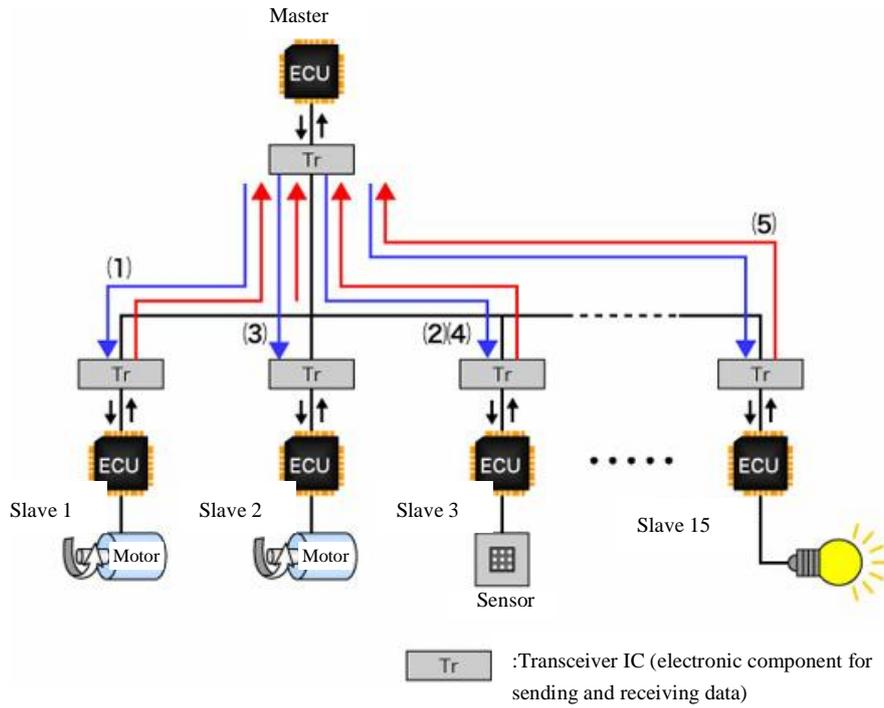
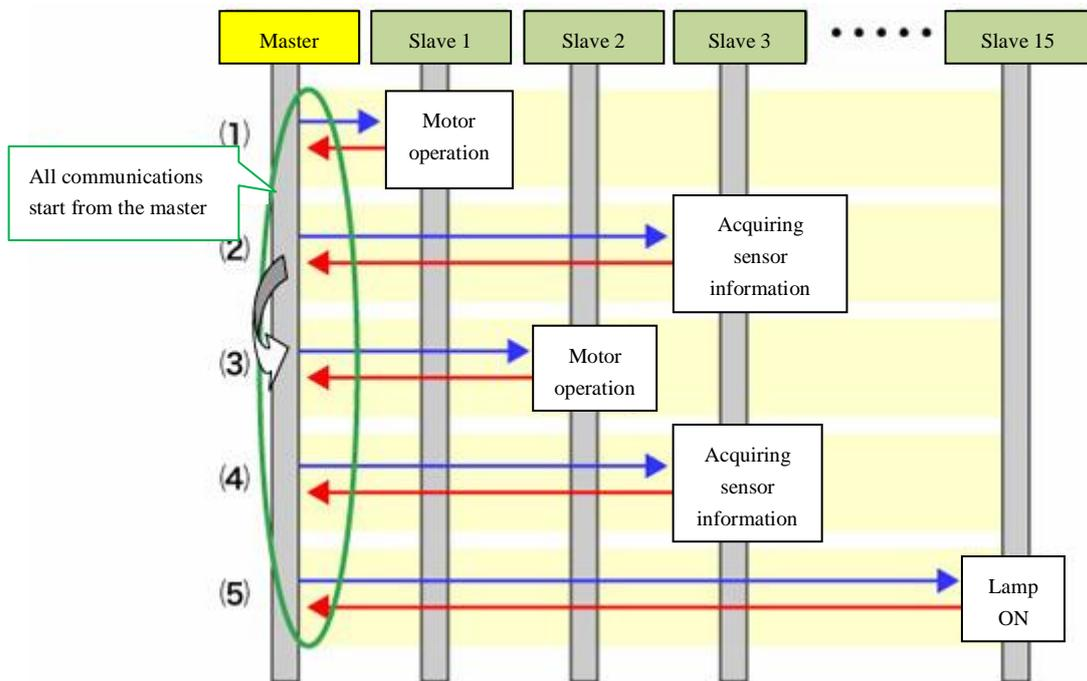

Figure 5-5 Main LIN network configuration
Figure 5-6 Example of communication sequence between the master and slaves during normal communication
This section explains the actual trading of communications. Currently, functions are allocated to each of the slaves from 1 to 15. The master first communicates with slave 1 and turns the motor ((1) in Figure 5-5 Main LIN network configuration and Figure 5-6 Example of communication sequence between the master and slaves during normal communication), and next acquires sensor information by communicating with slave 3. ((2) in “Figure 5-5 Main LIN network configuration” and Figure 5-6 Example of communication sequence between the master and slaves during normal communication.) Thereafter, the motor is turned by communications with slave 2 ((3) in Figure 5-5 Main LIN network configuration and Figure 5 6 Communications sequence between master and slave during normal communications). The master acquires sensor information from slave 3 again ((4) in Figure 5-5 Main LIN network configuration and Figure 5 6 Communications sequence between master and slave during normal communications), and finally turns ON the lamp by communicating with slave 15 ((5) in Figure 5-5 Main LIN network configuration and Figure 5 6 Communications sequence between master and slave during normal communications). In this chain of communications, communications between the master and slaves 2 and 3 are contiguous, and the master processes the motor turning by communicating with slave 2 using sensor information acquired by communicating with slave 3 first. In this way, during actual communications the master and multiple slaves repeatedly communicate on a 1-to-1 basis.